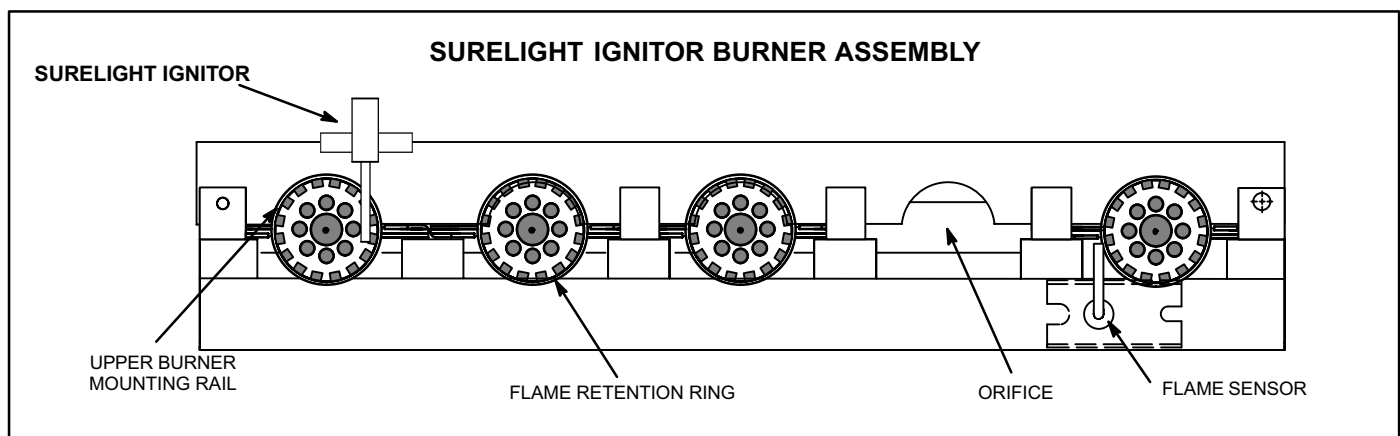
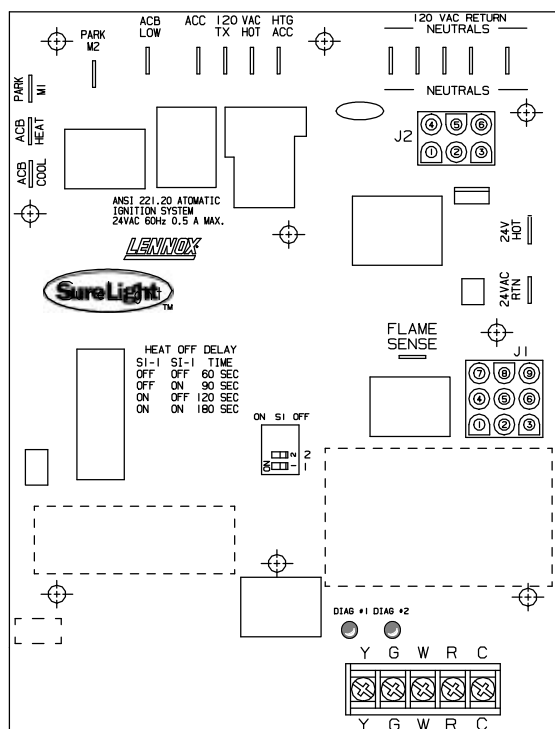

FIGURE 5
FIGURE 6
Late model G24M units are equipped with the Lennox SureLight ignition system. The system consists of ignitor (figure 5) and ignition control board (figure 6 with control terminal designations in table 1). The board and ignitor work in combination to ensure furnace ignition and ignitor durability. The SureLight integrated board controls all major furnace operations. The board also features two LED lights for troubleshooting and two accessory terminals rated at (4) four amps. See table 2 for troubleshooting diagnostic codes. Table 3 and 4 show jack plug terminal designations. Units equipped with the SureLight board can be used with either electronic or electro-mechanical thermostats without modification. The SureLight ignitor is made of durable silicon-nitride. Ignitor longevity is also enhanced by voltage ramping by the control board. The board finds the lowest ignitor temperature which will successfully light the burner, thus increasing the life of the ignitor.